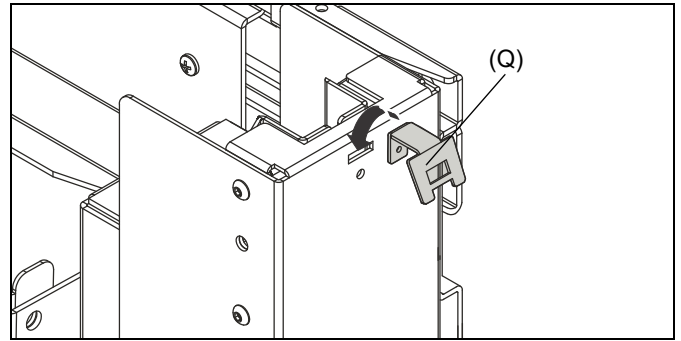

Figure 24
5. Install control pad bracket (Q) at desired control pad location. May be installed on either side, top or bottom, depending on user preference. (See Figure 24)